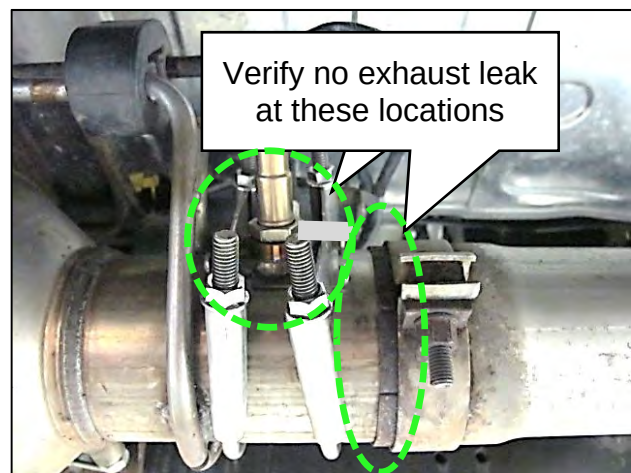

Figure 62
47. Verify there are no exhaust leaks in the area shown in Figure 62.